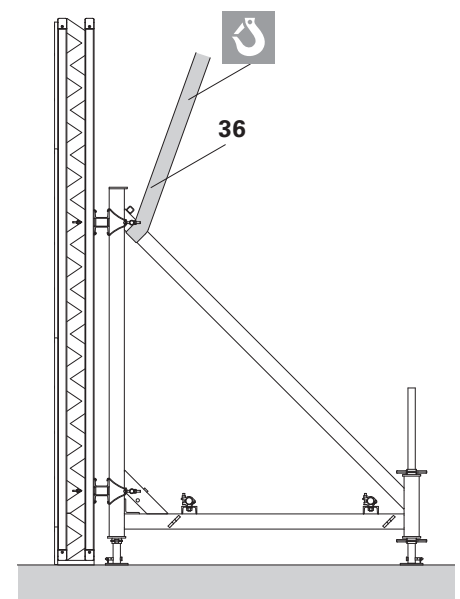

Fig. C2.04
Wrap textile strap (36) around the Brace Frame and attach to the crane. (Fig. C2.04)